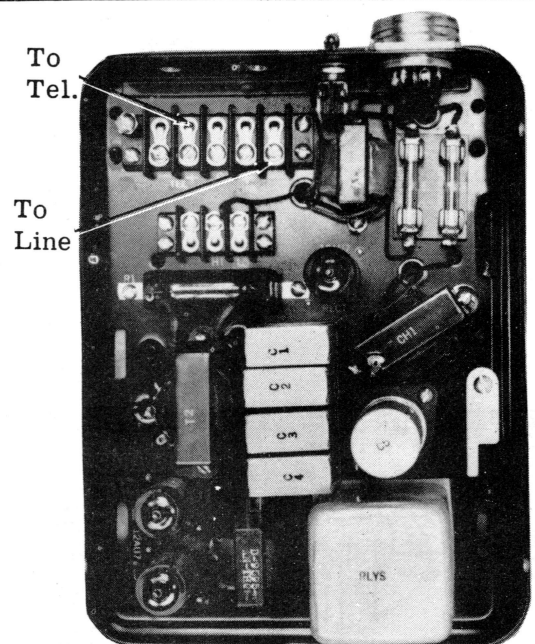

Fig. 2. View of Recorder Connector with Door Removed.
2.02 The recorder connector unit is equipped with 5 binding terminals. See Fig.2.